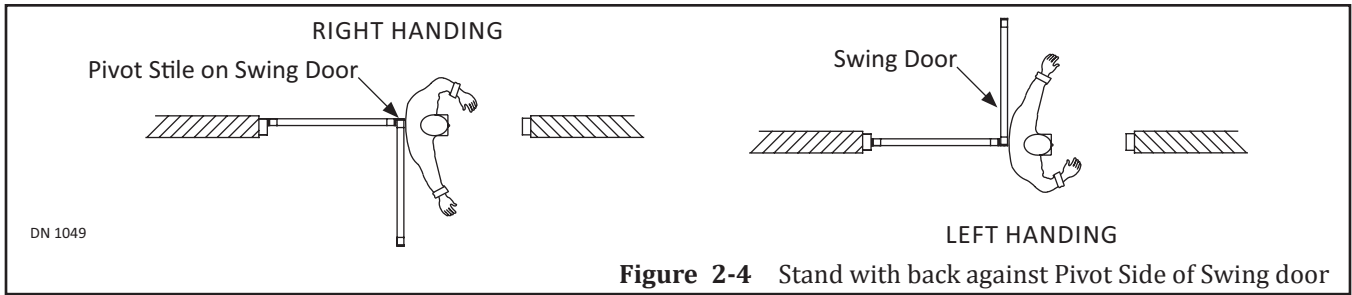

Figure 2-4 Stand with back against Pivot Side of Swing door
- a. The Letter (L) or (R) located in front of the Serial Number indicates the Handing.
- ▶ To determine Handing from standing underneath the Header: Open the Swing door. Butt your back against the Pivot side of Swing door. Swing out the (right or left) arm in the direction the Swing door opened. Please see Figure 2-4.